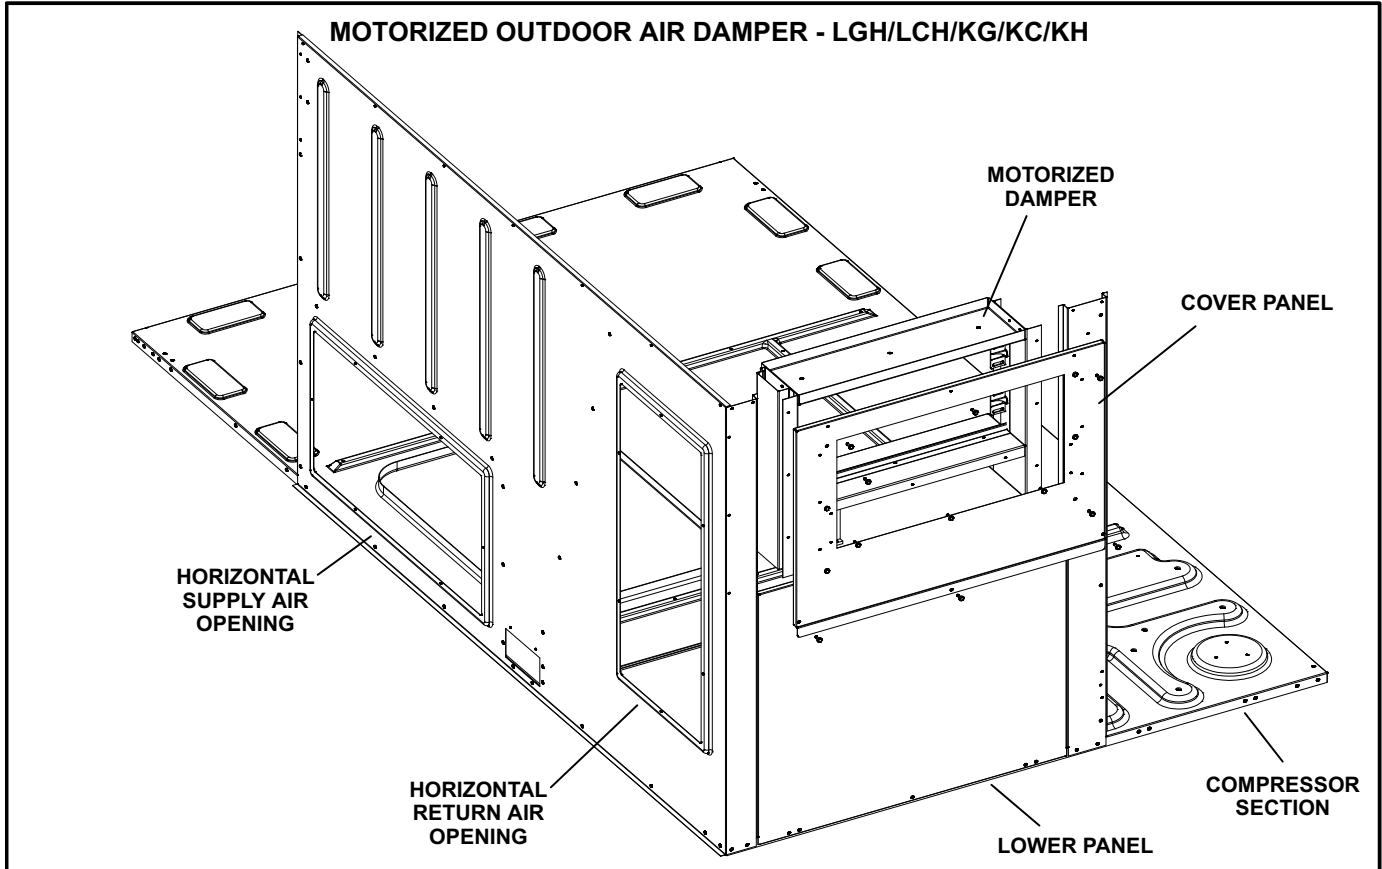

FIGURE 1
- 3- Install insulation on the unpainted side of lower panel. Use four pins and four washers to secure insulation to panel. See figure 1.